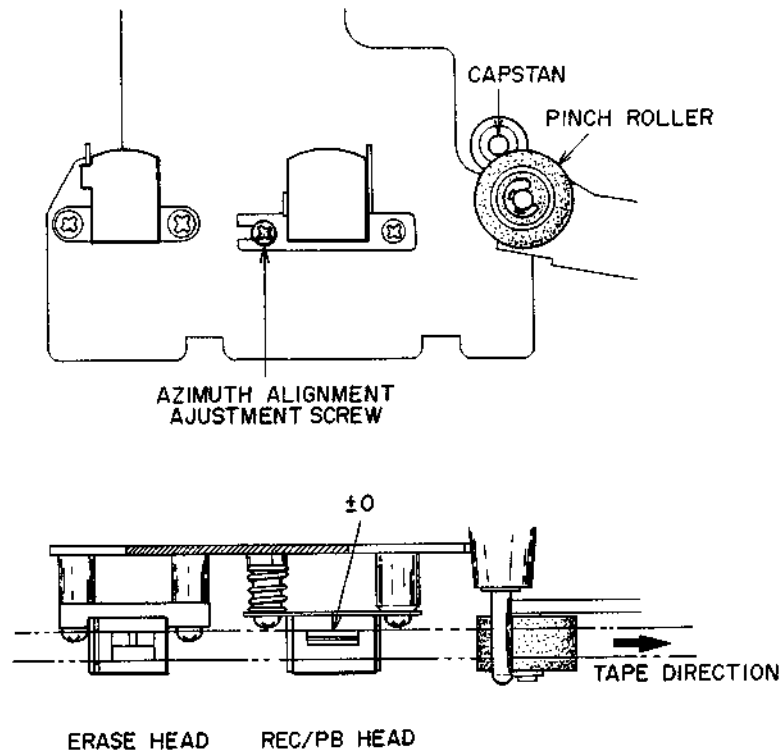

Fig. 9
1. Recording/Playback Head Azimuth Alignment (Refer to Fig. 9)
- a) Playback a 10 kHz pre-recorded cassette azimuth alignment test tape and adjust screw shown in Fig. 9 to obtain maximum output on both channels.